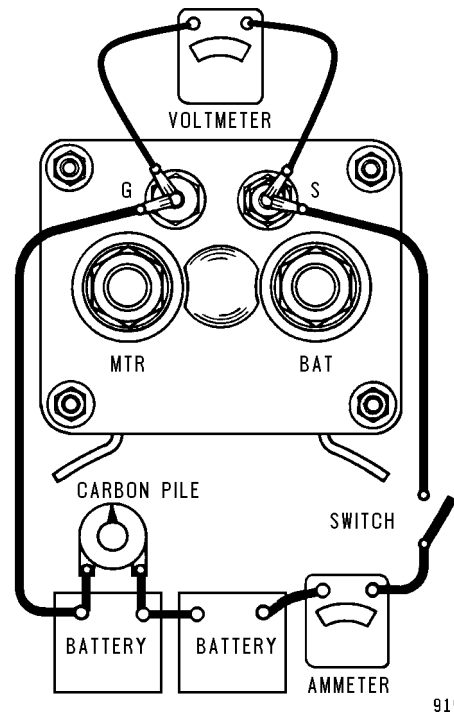
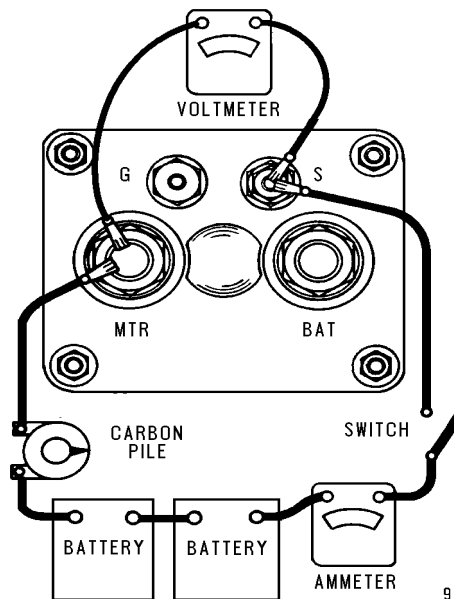

FIGURE 2-8. SOLENOID HOLD-IN WINDING TEST
FIGURE 2-9. SOLENOID PULL-IN WINDING TEST
1. With all leads disconnected from the solenoid, make test connections as shown to the solenoid, switch terminal and to the second switch terminal "G", to check the hold-in winding (Figure 2-8).
3. To check the pull-in winding, connect from the solenoid switch terminal "S" to the solenoid motor "M" or "MTR" terminal (Figure 2-9).
5. To check for grounds, move battery lead from "G" (Figure 2-8) and from "MTR" (Figure 2-9) to the solenoid case. Ammeter must read zero. If not, the winding is grounded.